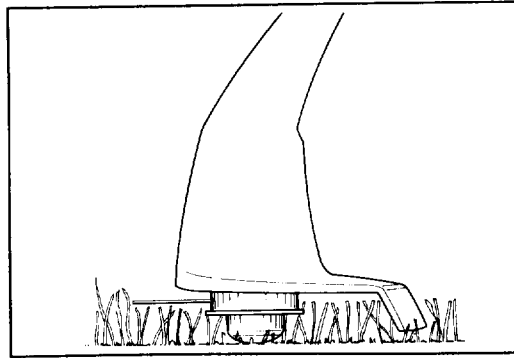

Figure 12
9. **Never drag the trimmer spool cap on the ground while trimming (Fig. 12). This causes motor overload and spool cap wear.**